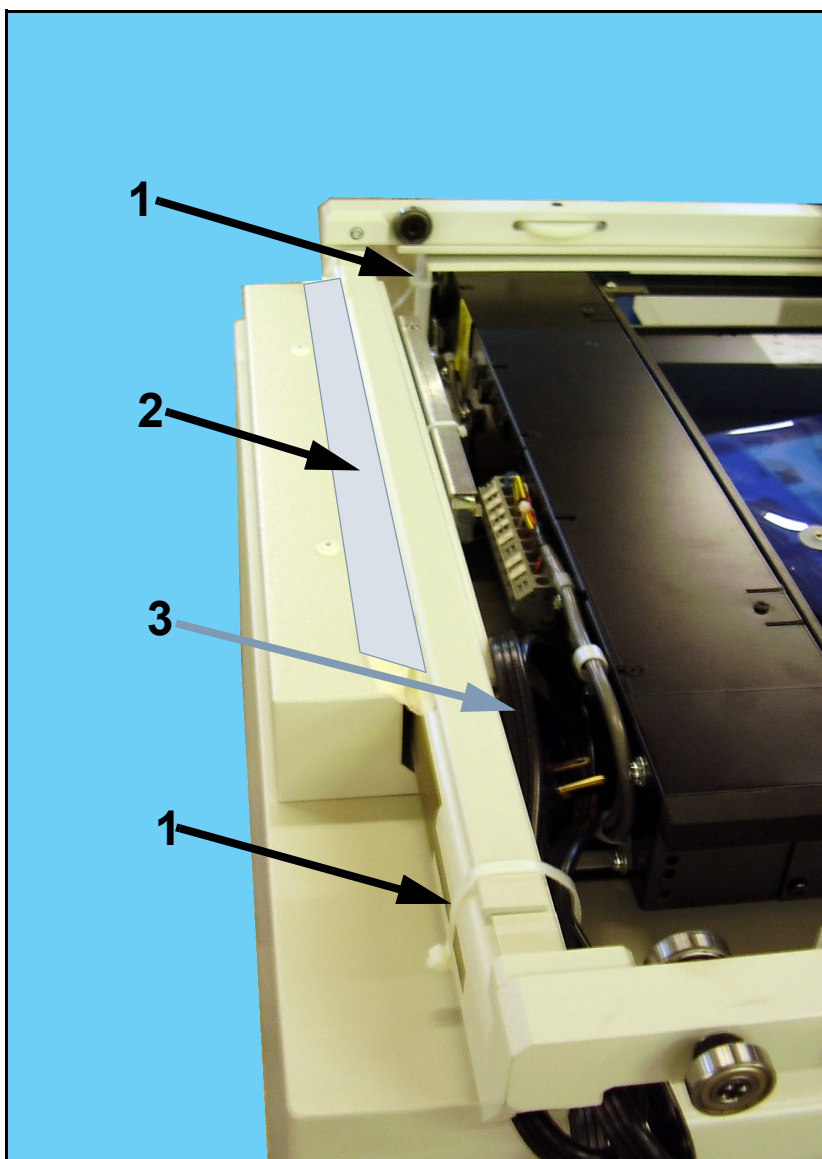

Figure 2-4. Removing Restraints
- 6 Cut and remove the tie wraps (1 in Figure 2-4).
- 7 Peel off tape (2) on *both* ends of the base. Only one end is shown in Figure 2-4.
- 8 Pull the power cord (3) from the base and unwrap it.